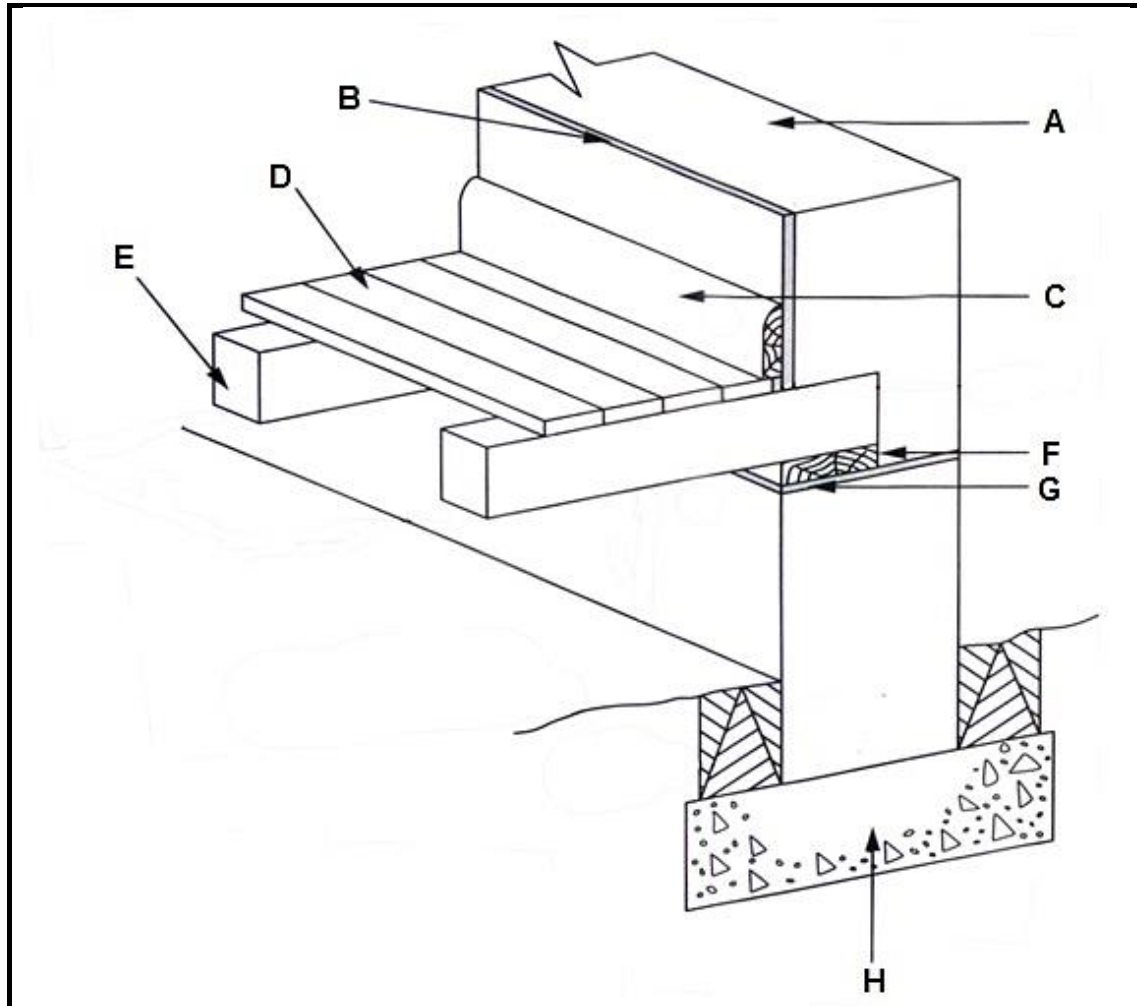

FIGURE 6.9
- 6.9 FIGURE 6.9 shows the construction detail of a suspended floor.